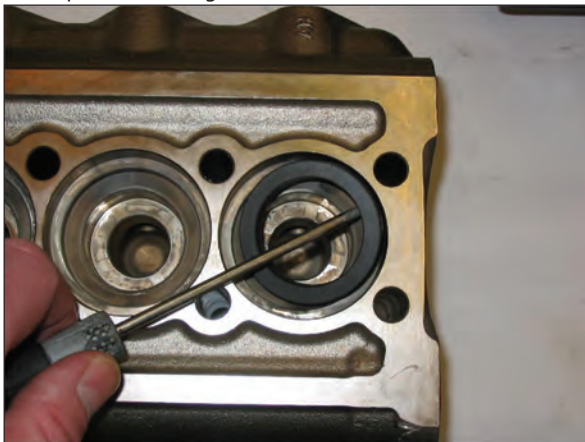

Fig. 21
C) Extract the high pressure seals from the head and the low pressure ones from the support, using simple tools as indicated in Fig. 21, being careful not to damage the respective housings.
Pay attention to the order of seal pack disassembly as indicated in Fig. 21 composed of: